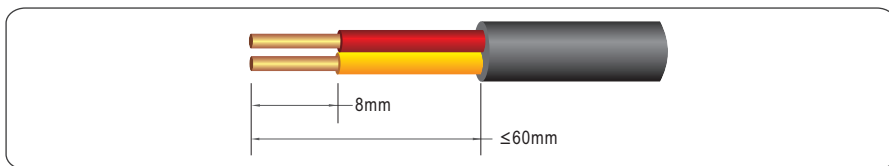

Figure 5.18 Stripping an RS485 communications cable (unit: mm)
**Step 1** Remove an appropriate length of the insulation layer from the cable using a wire stripper, as shown in Figure 5.18.